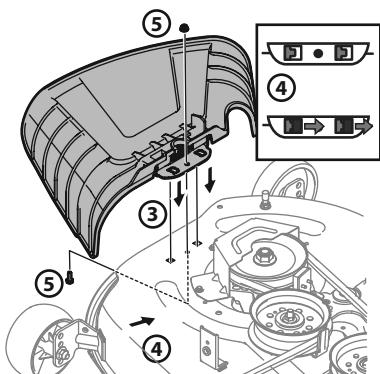

Figure 11
- Place the chute deflector on the deck, be sure to insert the tabs on the chute deflector into the holes on the deck. See Figure 11.
- Slide the chute deflector toward the rear of the tractor until the bolt hole in the chute deflector aligns with the hole in the deck. See Figure 11.
- Secure the chute deflector in place with the flange lock nut and hex screw removed in step two. Tighten to 102-124 in-lbs (11.5-14 N·m). See Figure 11. Skip ahead to "Setting the Deck Wheels"